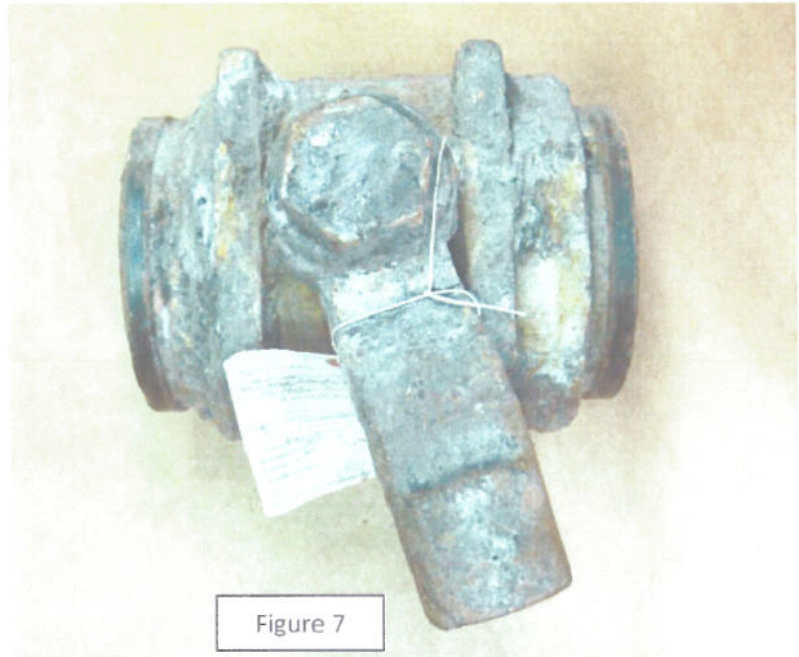

Figure 7
4. The 6" cut-off that was located on the cross over pipe and failed to close properly was a Series 721 six inch ball valve constructed of ductile iron and manufactured by Victaulic (Figure 7).